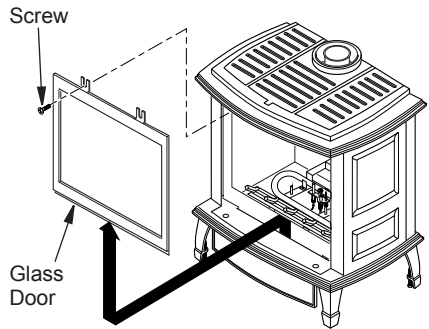

Figure 38 - Removing Glass Door from Burner System
2. Remove screws from 2 tabs at top of glass door while holding door securely keeping it from falling forward (see Figure 38).
3. Grasp door by both sides and ease it upward off of lower bracket (see Figure 38).